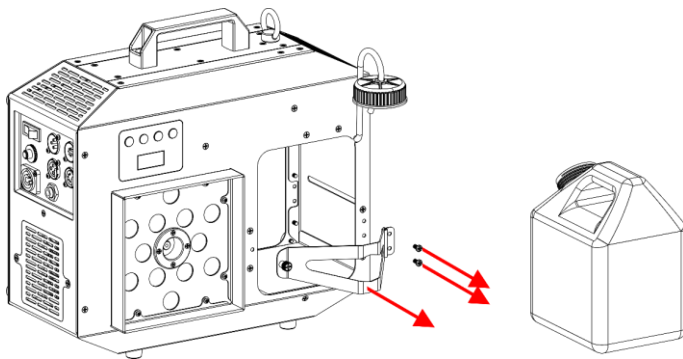

Fig. 12
- 07) Remove the 2 screws and the **bracket for liquid tank (03)**, as shown in Fig. 12.